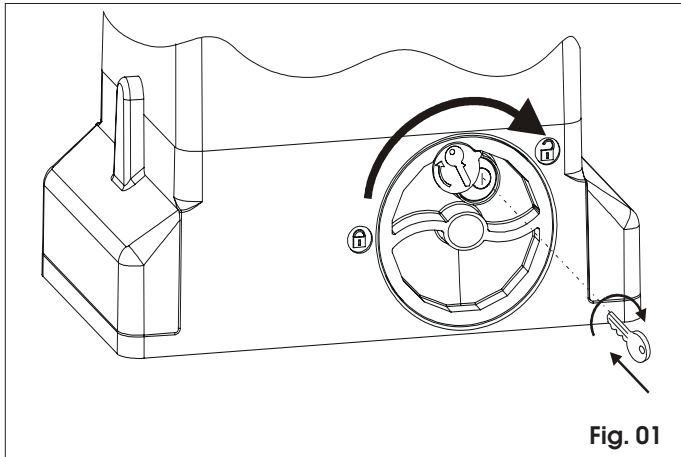

Fig. 01
- 1) Insert the key provided and turn it clockwise as shown in Fig. 01 ref. 1 and 2.
- 2) Turn the release system clockwise, until the mechanical stop is reached, Fig. 01 ref. 3.